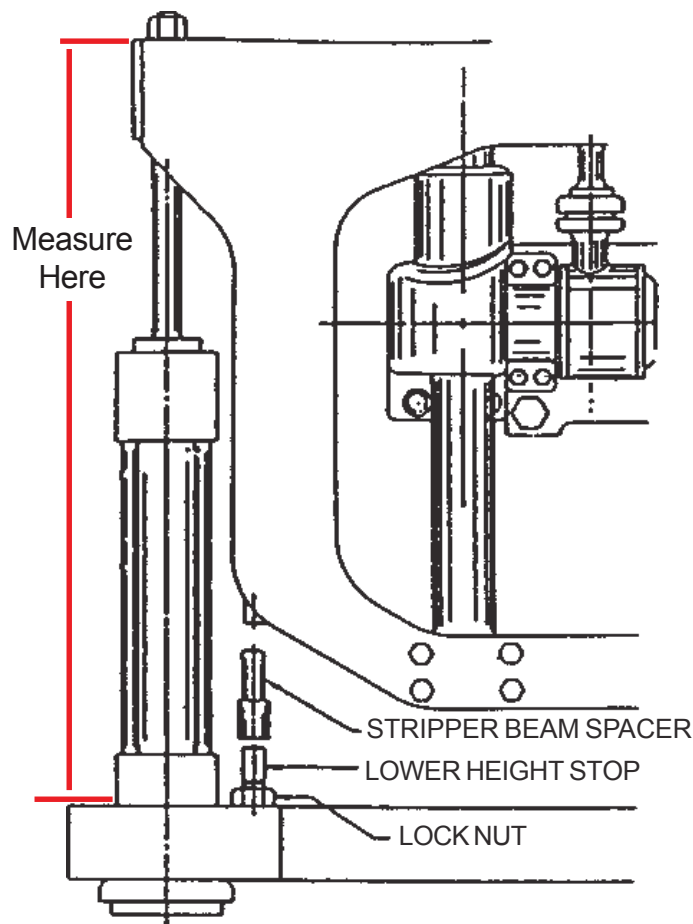

Figure 45, Typical Lower Spacer Installation
- Install appropriate spacer(s) on each lower height stop in relation to block height requirements (Figure 45).